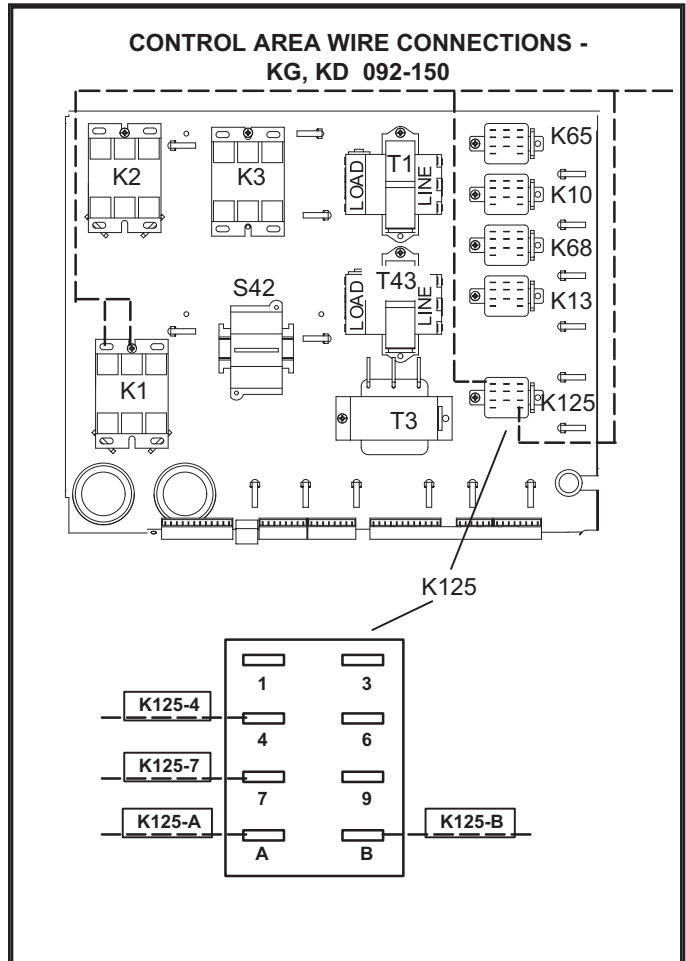

**FIGURE 2**
- 3 - Install heater assembly in heat section as shown in FIGURE 2. Use existing screws.
- 4 - Route the remaining harness wires as shown in FIGURE 2. Make wire connections as shown in FIGURE 1.
- 5 - Install heater assembly in heat section as shown in FIGURE 2. Use existing screws.